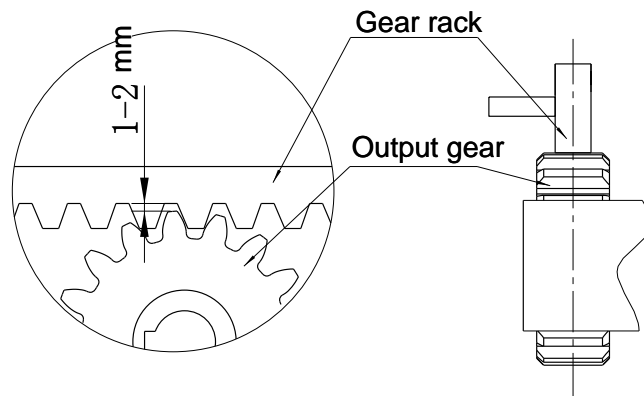

Figure 7
- Manually move the gate (gate should be moved smoothly after motor unlocked) to check whether there is a fit clearance between rack and output gear, as shown in Figure 7.
The fit clearance of output gear and rack is shown in Figure 7 below: